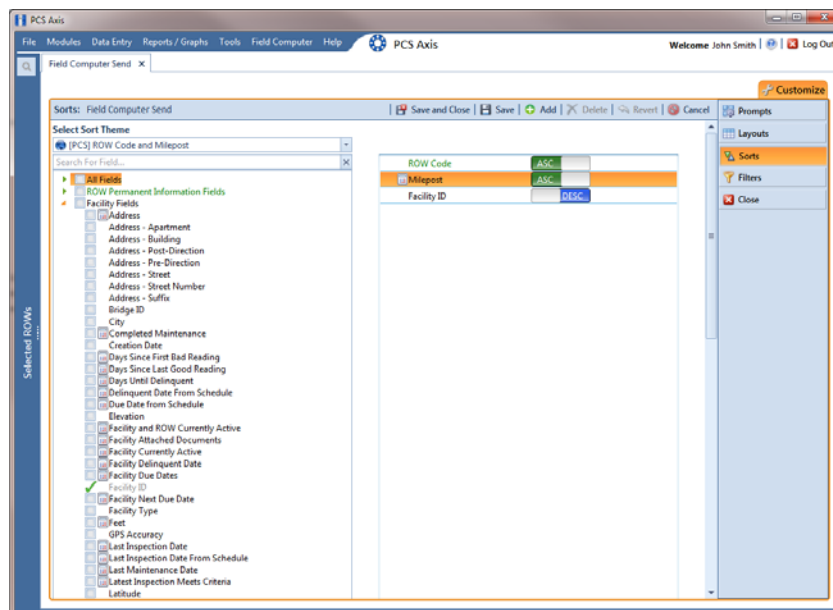

Figure 13-35. Sorts
- 8 Click  **OK** to save changes and return to the *Sorts* page (Figure 13-35, page 590).